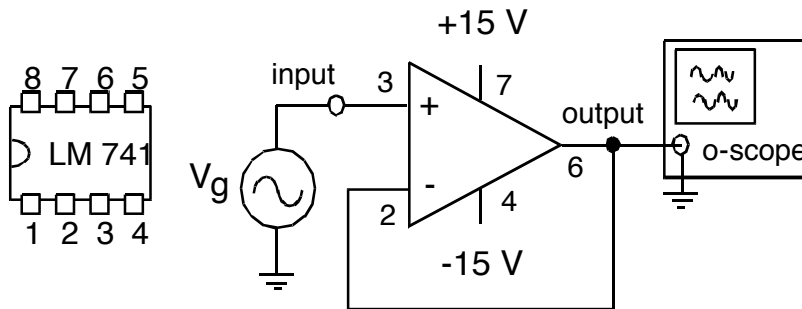

Fig 1: Op-amp IC pin diagram and test-circuit schematic
The op-amp circuits are the only type of *active* circuit that we will encounter in ECE 2A. Active circuits require an external source of energy to operate properly. Figure 1 below shows a picture of the LM741 op-amp that we will use, with the pin numbers conventionally labeled (for more detail, a copy of the LM741 data sheet is posted at the class web site). Most op-amps have the same pin configuration. Use the $\pm 20\text{V}$ outputs of your bench power supply, adjusted appropriately, for the $\pm 15\text{V}$ sources.
(1) Using your breadboards and the lab bench power supply, construct the circuit shown in figure 1 above. This is called the *voltage follower* configuration, and is a type of *buffer* amplifier. It is often used because the high input impedance prevents excessive loading of the source generator; i.e., no current is drawn from the source, therefore no voltage drops on any internal resistance of the source.